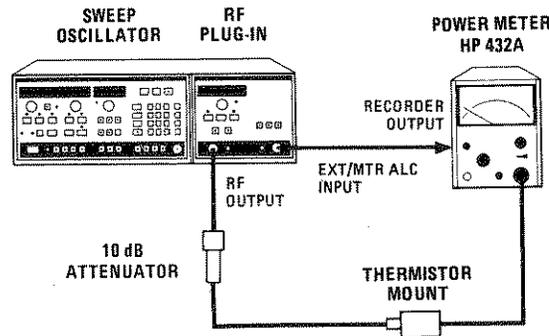

Figure 5-24. Power Meter Leveling Calibration Test Setup
1. Connect equipment as shown in Figure 5-24. Ensure 8350A MOD is off. Press CW and select a frequency at midband.